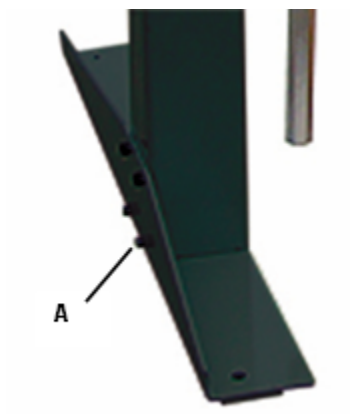

Figure 6-4
26. Attach the feet to columns using the M8x16 button-head screws. Install the feet under the columns with the short end forward. Left foot shown (fig. 6-4).